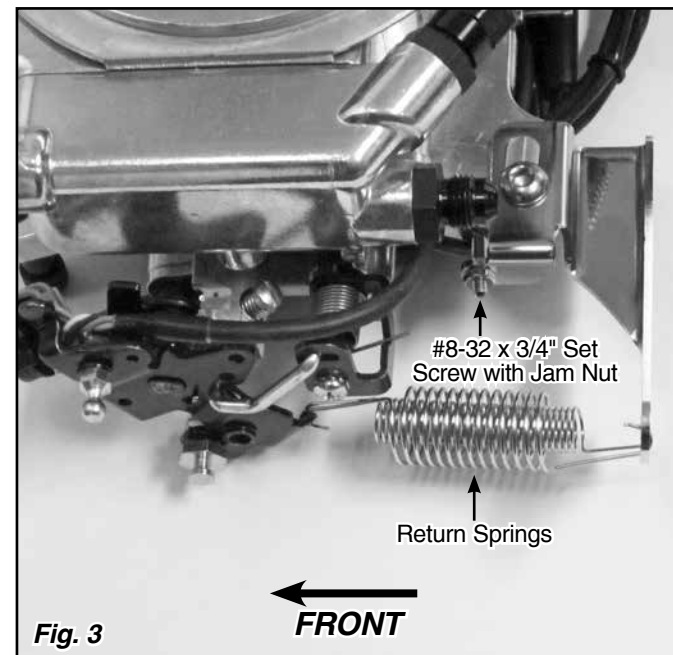

Fig. 3
Step 4: Connect the rear ends of the return springs to the lowest hole in the Throttle Cable Bracket. Connect the front ends of the return springs to the small hole at the rear edge of the lower part of the throttle lever. Fig. 3